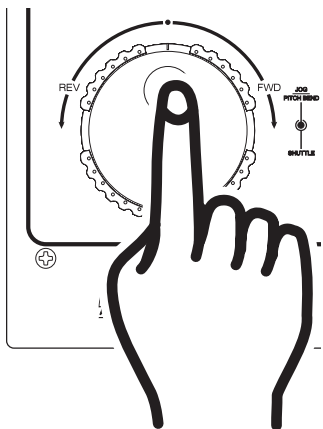

Figure 20
This function will increase or decrease a tracks playback speed or "PITCH," this is not a momentary change as in "PITCH BENDING" (see page 19). The maximum pitch bend percentage allowed is $\pm 16\%$. The PITCH SLIDER (21) is used to decrease or increase the playback pitch. If the slider is moved up (towards the top of the unit) the pitch will decrease, if the slider is moved down (towards the bottom of the unit) the pitch will increase. The PITCH SLIDER (23) adjustment can be changed to range from $\pm 8\%$, $\pm 12\%$, or $\pm 16\%$ (See changing "PITCH SLIDER PERCENTAGE RANGE" figure 20/page 20). The pitch adjustments will effect playback, reverse playback, and loops.
- 1) Create a cue point, press the CUE MEMORY BUTTON (6), as in Figure 20. The yellow Cue Memory LED will glow. This indicates a cue point is ready to be stored in to memory.